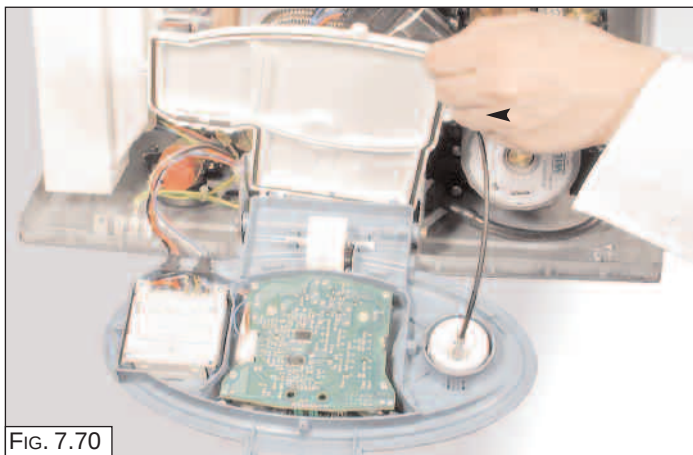

FIG. 7.70
6. Remove the cover of the control panel (FIG. 7.70);